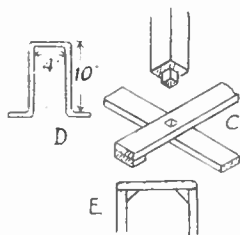
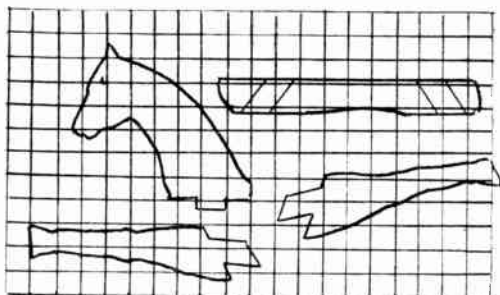

Fig. 2 Post and rocker details
Fig. 3 Outline of horse's head and legs
The posts are cut from wood 3ins. square and are sawn at their bottom ends to form 2in. long tenons to fit the mortises. At each end of the long floor member glue and nail 2in. wide strips of 1in. thick wood. The detail sketch (C) in Fig. 2 explains the above details.
Across the top of the posts nail a board of 1in. deal, 3½ins. wide, as at (A). On this the rocking irons, now to be dealt with, are fitted. The irons are bent up to the shape shown at (D) in Fig. 2. from round iron rod, ¾in. diameter.
Now for the horse. Quite a plain affair this requiring no intricate carving, or building up. First cut the seat board, shown at (F) in Fig. 3. This is cut from 1in. board to the length given.
triangular strips of wood to strengthen this part, as seen in detail sketch (E) in Fig. 2. This completes the horse portion, so far as the work of construction comes in, which should be screwed to strips (B).
The carriage itself consists of a piece of board 5ins. long and 4ins. wide. It will be seen from Fig. 2 and Fig. 3 that the larger pair of wheels is at the front, on a